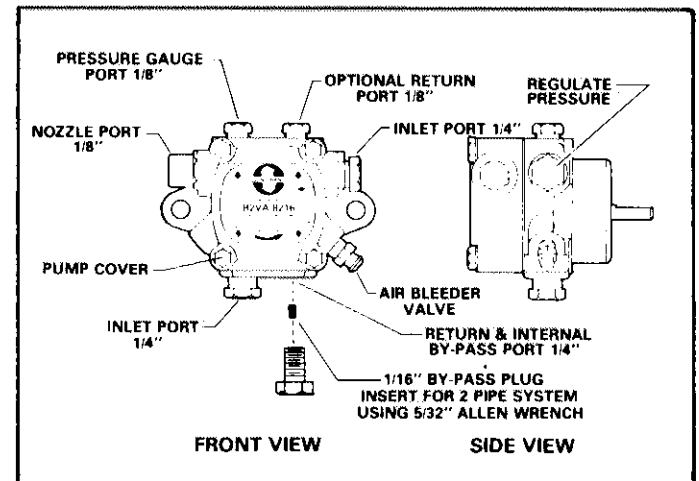

FIGURE 3
Figure 3 identifies the oil pump ports. As the oil burner is shipped from factory, it is set up for a single line system. To convert to a two line system, remove the 1/4 inch plug from return port and install the 1/16 inch by-pass plug that is in the attached bag assembly.
psig but is adjustable. See Figure 3. Never exceed 110 psig operation.
- 4 - Strainer Access** - An internal strainer removes any sediment or foreign material from oil before it reaches pump. Remove screws securing pump cover for access. See Figure 3.